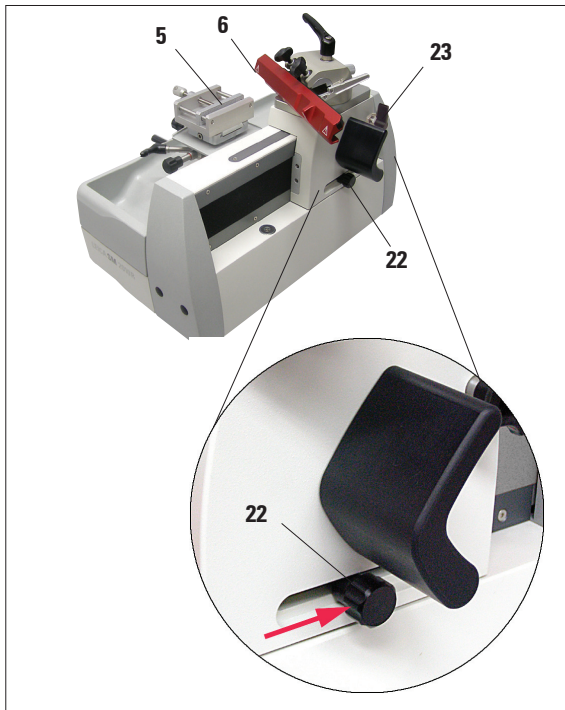

Fig. 25
- To adjust the automatic feed, move the blade/knife (6) until it is just in front of the specimen (5) (Fig. 25) and lock it in this position using the locking knob (23).
- Loosen the adjusting button (22) and push it back until you can feel resistance. Retighten it in this position.
**If the adjusting button (22) is locked in the frontmost (left) position (Fig. 25), there is no feed motion.**